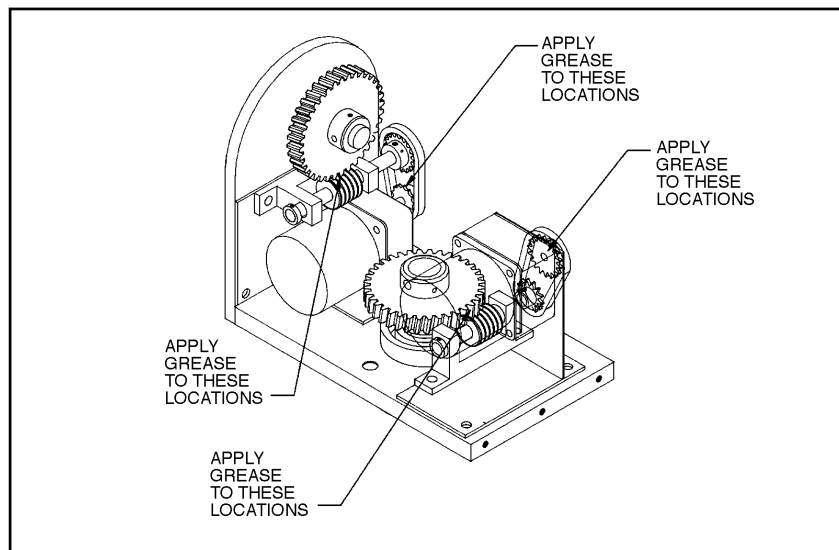

Figure 8. Servicing the Pan/Tilt
1. Liberally apply grease to the pan and tilt gears, chains, and sprockets (refer to Figure 8).